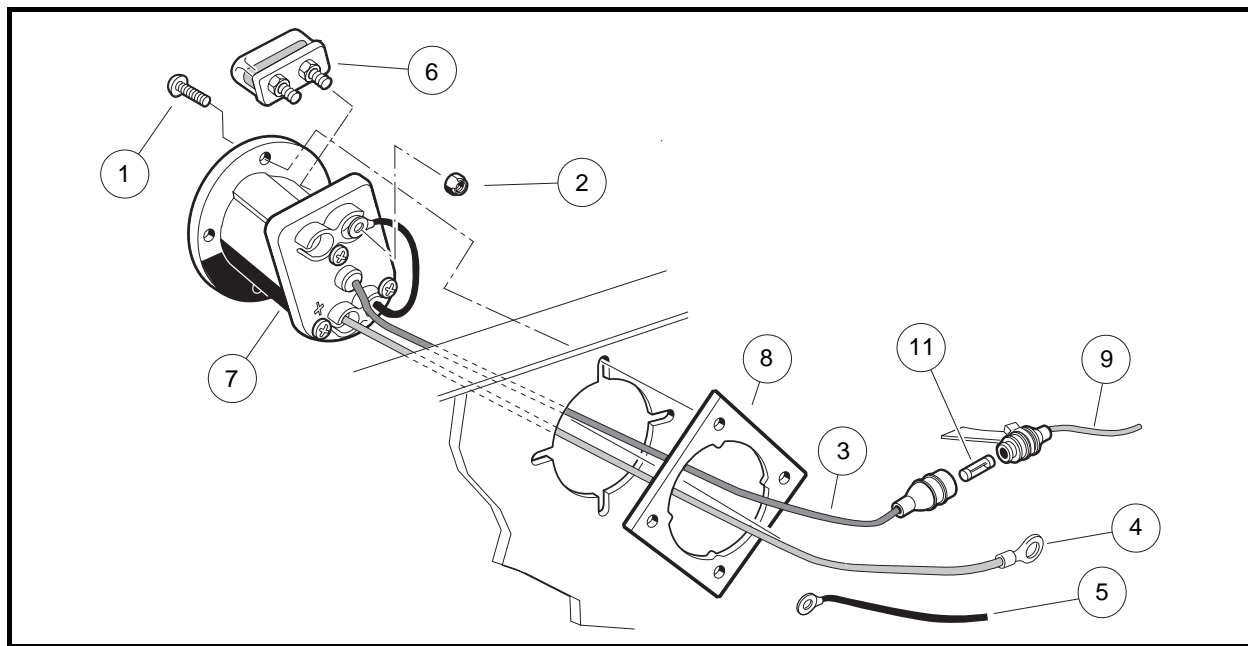

Figure 13-9 Charger Receptacle
2. Remove the 10-gauge red wire (4) from the positive post of battery no. 1 (**Figure 13-9, Page 13-14**).
3. Remove black 10-gauge OBC wire (5) from charger receptacle.
4. Disconnect the gray wire (9) from the receptacle at the yellow fuse holder.
5. Remove the four screws (1) that secure the charger receptacle bezel (7) to the receptacle backing plate (8) and to the vehicle body.
1. Insert the 10-gauge red wire (4) and the 18-gauge gray wire (3) through the hole in the vehicle body and the receptacle backing plate (**Figure 13-9, Page 13-14**).
3. Install the four screws (1) that secure the receptacle to the vehicle body and receptacle backing plate (8). Tighten screws to 16 in-lb (1.8 N·m).
4. Connect 18-gauge gray wire (9) to yellow fuse holder. Make sure fuse (11) is installed in fuse holder.
5. Connect the 10-gauge black wire (5) to the receptacle fuse link (6) on the charger receptacle (**Figure 13-9, Page 13-14**). Tighten to 23 in-lb (2.6 N·m).
6. Connect the 10-gauge red wire (4) to the positive post of battery no. 1.
The fuse link on the 48-volt Club Car electric vehicle should not blow under normal operating conditions; however, if the fuse link has blown, the vehicle will not charge and the fuse must be replaced. The fuse link (6) is mounted on top of the charger receptacle in the battery compartment (**Figure 13-9, Page 13-14**).
1. Remove the fuse link (6) from the charger receptacle (7) by removing the two nuts and washers used to secure the 10-gauge black wire (5) from the computer and the 10-gauge black wire to the receptacle (**Figure 13-9, Page 13-14**).
2. Remove the fuse link (6) from the charger receptacle.
3. Install nuts (2) on fuse link mounting posts and tighten to 23 in-lb (2.6 N·m) (**Figure 13-9, Page 13-14**).